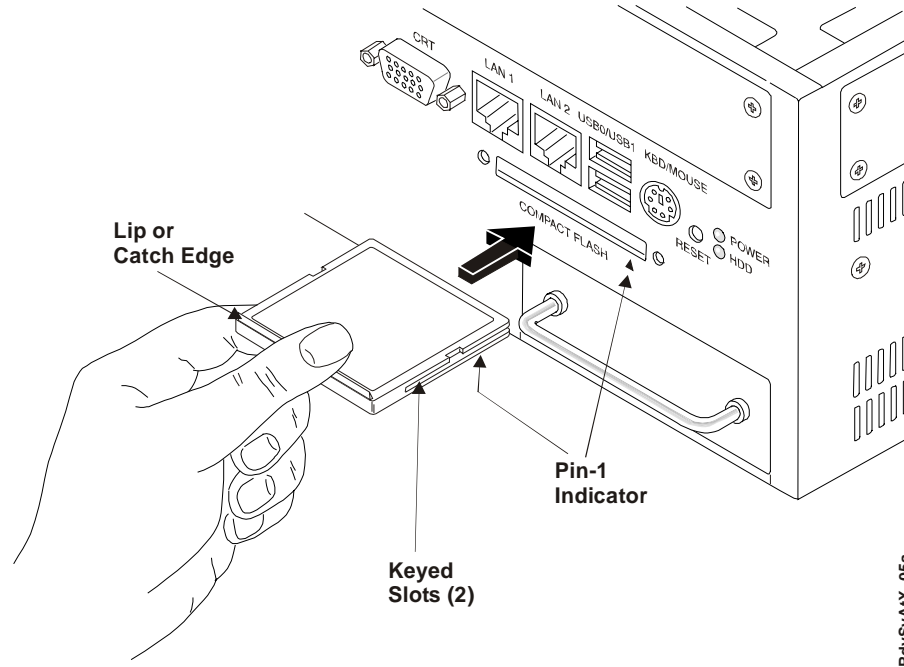

Figure 2-2. Installing the Compact Flash Card
7. Insert the compact flash card into the opening provided by matching the pin-1 orientation of the compact flash card with the arrowhead on the I/O panel. See Figure 2-2.
NOTE The keyed slots and lip (or catch edge) on the compact flash card are used to install into the socket in only one orientation. Pin-1 one should be down and to the right as shown in the Figure 2-2.
8. Push the compact flash card into the opening until it is firmly into the socket and mates with the pins. See Figure 2-2.